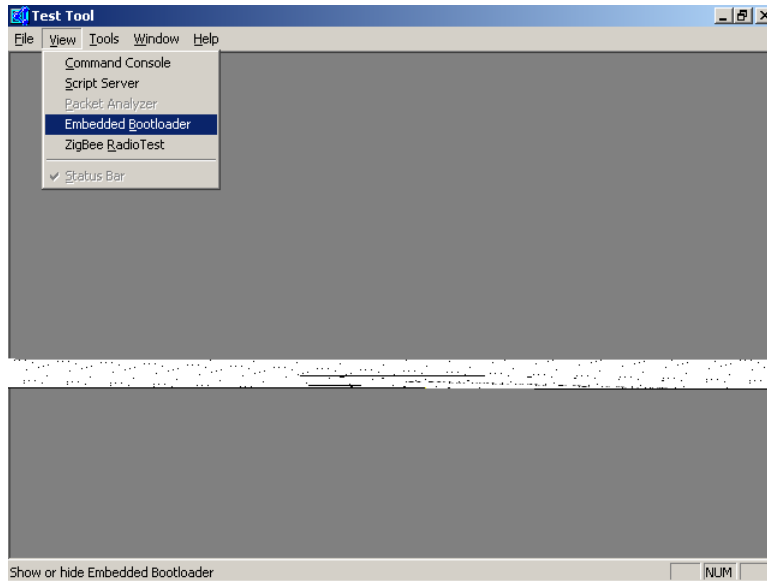

Figure 3-3. Test Tool Window (Choosing Embedded Bootloader)
10. From the Test Tool main window toolbar, launch the Embedded Bootloader application by selecting View->Embedded Bootloader as shown in Figure 3-3.